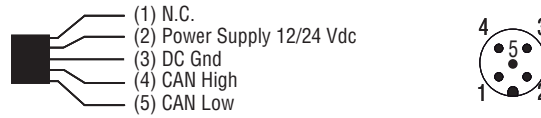

Figure 6. M12 x 1 connector system pin assignments
- N__F** = 4 single wires, M12x1 IP69K, 5 pin (pin assignment 2-3-4-5), see fig 6 on page 5.